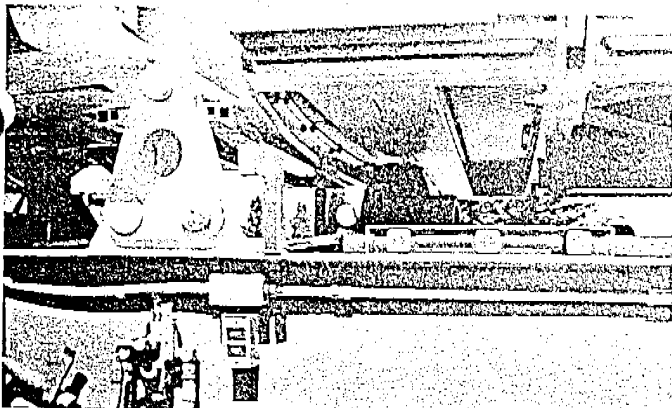

Fig. 6
- (3) Along the length of the trailer frame. (Fig. 6)